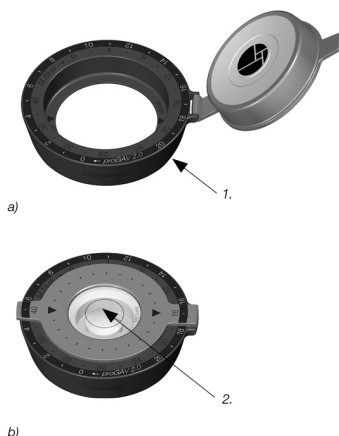

Fig. 4: *M.blue plus Compass*
M.blue plus Compass (Fig. 4) is used to locate the *M.blue* valve and to read the set opening pressure of its gravitational unit as well as the adjustable differential pressure unit of the *proGAV 2.0* valve.